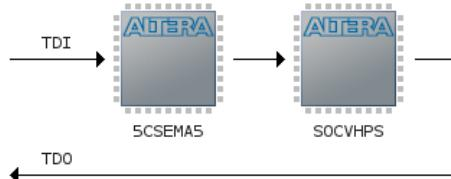

Figure 9-21. JTAG Scan Chain
You should now see 2 devices on the JTAG scan chain, as shown in Figure 9-21.
45. Right-click on the “5CSEMA5” device shown in Figure 9-21 and choose “Edit > Change File”. Then, select “DE1\_SoC\_demo/hw/quartus/output\_files/DE1\_SoC\_demo.sof” through the file browser.